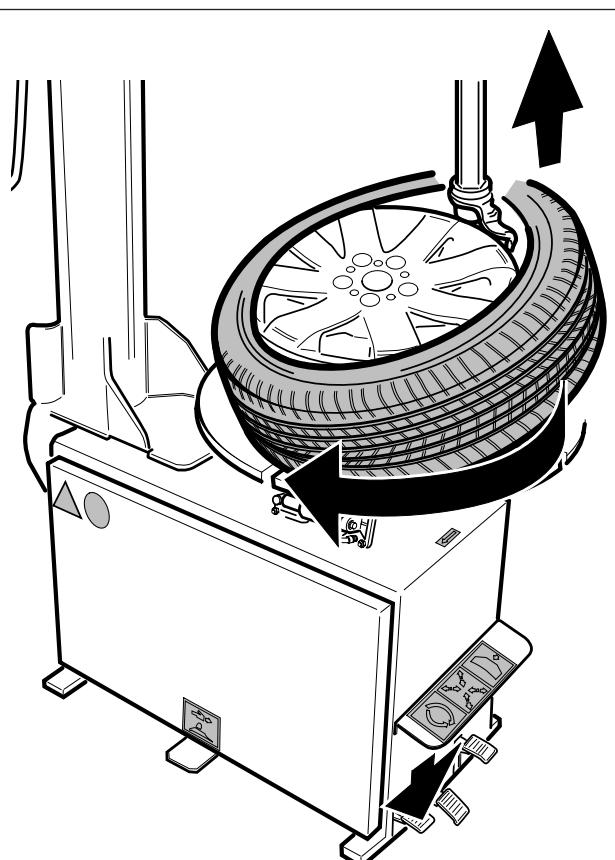

Fig. 13
- Depress table top pedal (9 - Fig.12) to turn the table top clockwise. The upper bead will be automatically guided up and over the edge of the rim. Repeat the procedure for the bottom bead (Fig.13). Move the swing arm clear and remove the tire.